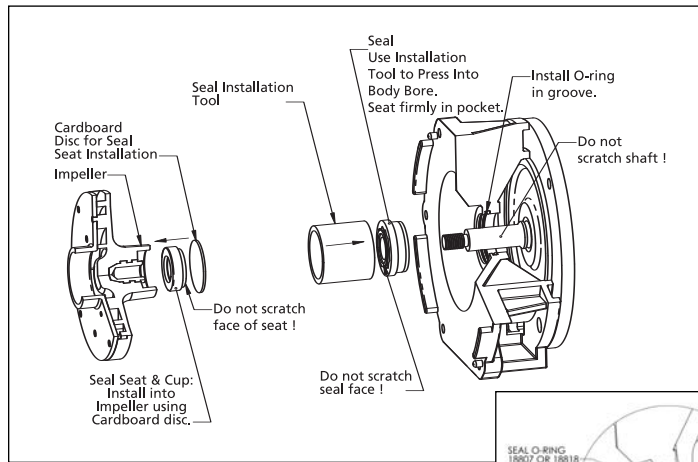

Figure 5 - Seal Install
4. The ceramic seat is located on the back side of the impeller (part of Ref. No. 5). Pry the seat out by using a screwdriver in the inside hole (see Figure 5). Be careful not to damage or scratch the inside surfaces of the bore holding the seat. Such scratches can cause leaks. Replace the impeller if such damage occurs.
6. Use a wooden dowel to push out the mechanical seal (part of Ref. No. 5) from the body adapter (Ref. No. 1). (See Figure 5.) Do not dig the seal out from the front.
3. Wet the rubber portion of the new seal seat (part of Ref. No. 5) with a light coating of soapy water. While wearing clean gloves or using a clean light rag, press seal seat squarely into impeller recess. Use the cardboard washer (usually supplied with new seal) to place over the polished ceramic surface and use a piece of pipe or dowel rod to press in firmly but gently (see Figure 5). Avoid scratching the ceramic face, usually white.
6. While preventing the shaft from turning, screw impeller (Ref. No. 4) onto shaft and tighten (see Figure 5).